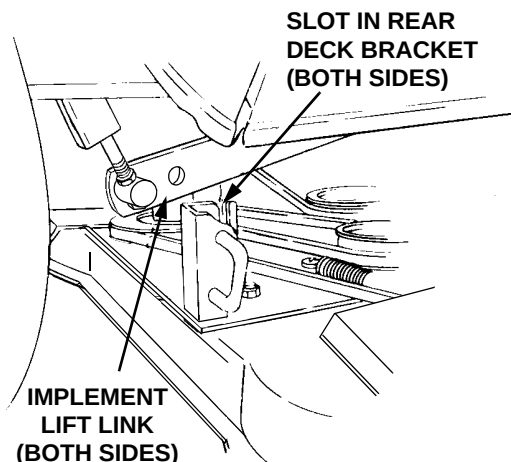

Figure 35
4. Raise the tractor implement lift handle to its highest setting and slide the deck under the tractor. Make sure the slot in each rear deck bracket aligns with the implement lift link on each side of the tractor (See Figure 35).